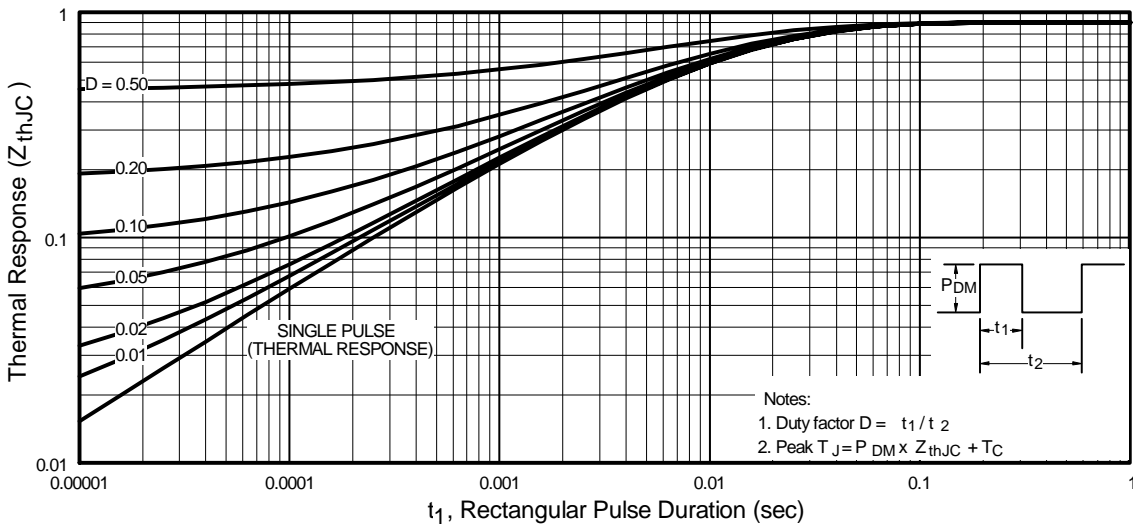

Fig 11. Maximum Effective Transient Thermal Impedance, Junction-to-Case
- ① Repetitive rating; pulse width limited by max. junction temperature. ( See fig. 11 )
- ② VDD = 15V, starting TJ = 25°C, L = 0.18mH